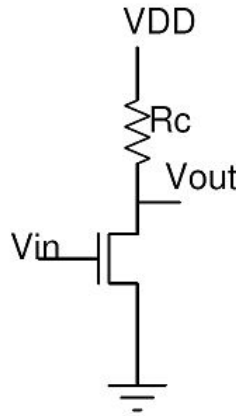

Figure 1: Typical structure of CS amplifier
Common Source (CS) structure is the very basic form of an amplifier using MOSFETs. Though it is simple, it gives a decent gain - bandwidth product. Design of CS amplifier is first step for any analog circuit beginner. Figure 1 shows a typical structure of a common source amplifier.